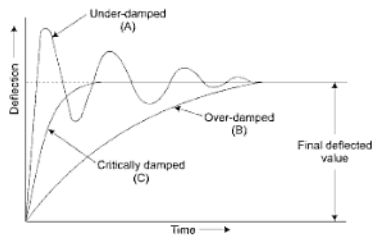

Fig. 4.3
We have already seen that the moving system of the instrument will tend to move under the action of the deflecting torque. But on account of the control torque it will try to occupy a position of rest where the two torques are equal. Due to inertia of the moving system, the pointer will not come to rest immediately but oscillate about its final deflected position as shown in Fig. 4.3.
- (i) *Critically damped*—If the pointer moves quickly to its final deflected value, the instrument is called 'critically damped' or 'dead beat' as shown by curve C in Fig. 4.3.